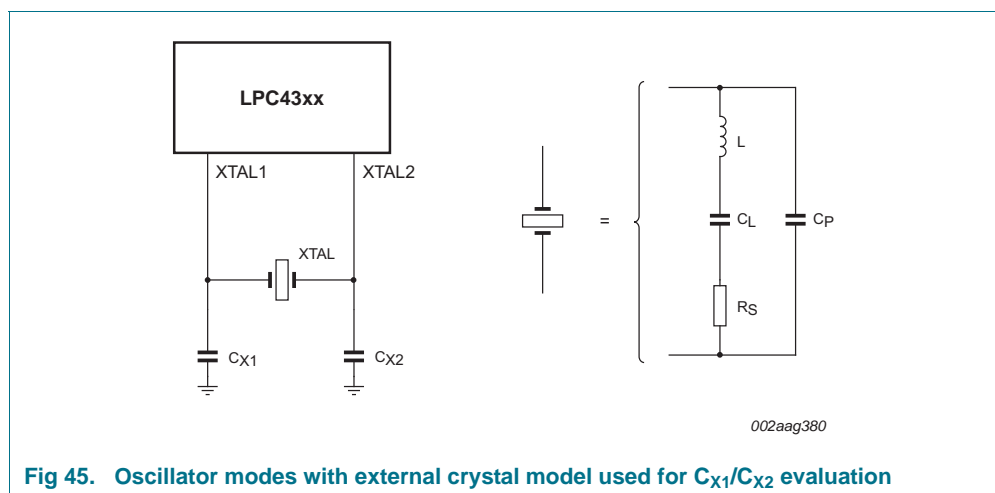

Fig 45. Oscillator modes with external crystal model used for C_{X1}/C_{X2} evaluation
- External components and models used in oscillation mode are shown in Figure 45, and in Table 39 and Table 40. Since the feedback resistance is integrated on chip, only a crystal and the capacitances C_{X1} and C_{X2} need to be connected externally in case of fundamental mode oscillation (L , C_L and R_s represent the fundamental frequency). The capacitance C_P in Figure 45 represents the parallel package capacitance and must not be larger than 7 pF. Parameters F_C , C_L , R_s and C_P are supplied by the crystal manufacturer.